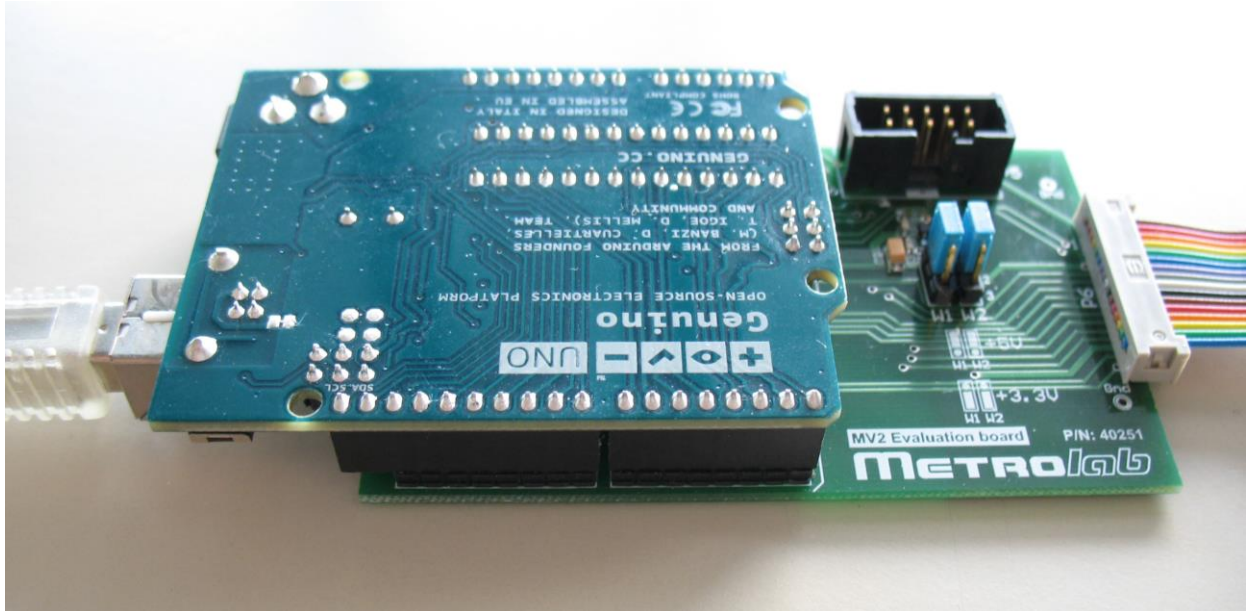

Figure 18. Arduino/Genuino UNO connected to MagVector MV2 test board.
As shown in Figure 18, the Arduino UNO's connectors mate exactly with those on the test board: the Arduino UNO Digital headers (IOL and IOH) connect to P1 and P2, respectively, on the test board; the Arduino UNO Analog (AD) and Power (POWER) headers connect to P3 and P4, respectively, on the test board. Note that the last two pins of the Digital header (IOH-9 – SDA and IOH-10 – SCL are not connected to the test board.